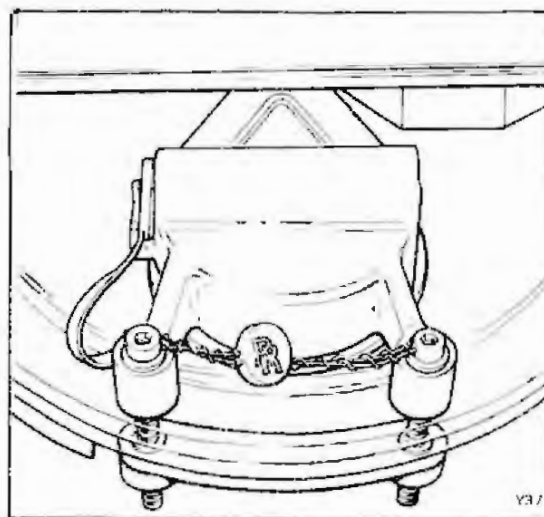

Fig. 6 Security seal
- 6 Fit the new security seals (see fig. 6).
- 16 Fit new security seals to both reservoirs (see fig. 6).